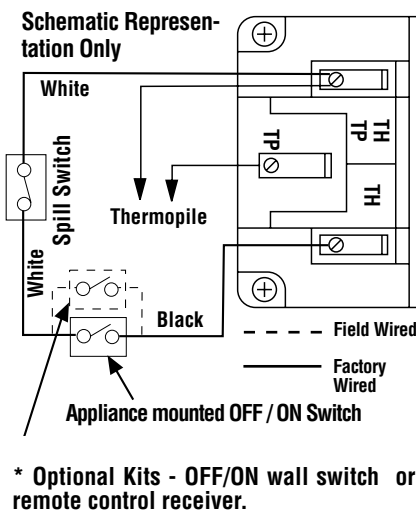

Figure 14
A. Millivolt Wiring (See **Figure 14**) –
- b. **Optional Control Switch** (OFF/ON wall switch or remote control receiver). Install snap bushing (provided in Electrical Outlet Kit) into control switch knock-out in side panel (see **Figure 9** on **Page 9**). Wire the optional control switch within the millivolt control circuit (as shown in **Figure 14**) using the 15 feet of 2 conductor wire supplied (route wires through the snap bushing to the optional control switch). Mount the optional wall switch in a convenient location on a wall near the fireplace.